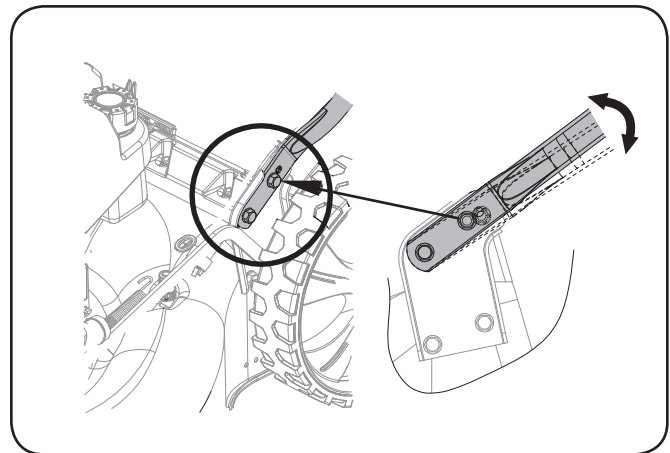

Figure 3-10
1. Remove locking nuts and bolts from handle. See Figure 3-10.